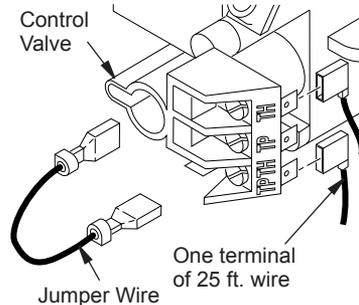

Figure 31 - Connecting Wire Terminals
1. Disconnect jumper wire from control valve (see Figure 31).
2. Connect one terminal of 25 ft. wire to "TPTH" terminal on control valve (see Figure 31).
3. Connect remaining wire terminal to the "TH" terminal on the control valve. Make sure that wire terminals are in the positions on your unit as pictured in Figure 31.
1. Connect one terminal of 25 ft. wire to “TPTH” terminal on control valve (see Figure 31, page 22).
2. Connect remaining wire terminal to the “TH” terminal on the control valve. Make sure that wire terminals are in the positions on your unit as pictured in Figure 31, page 22. If wires are not “crossed” the thermostat will not work.